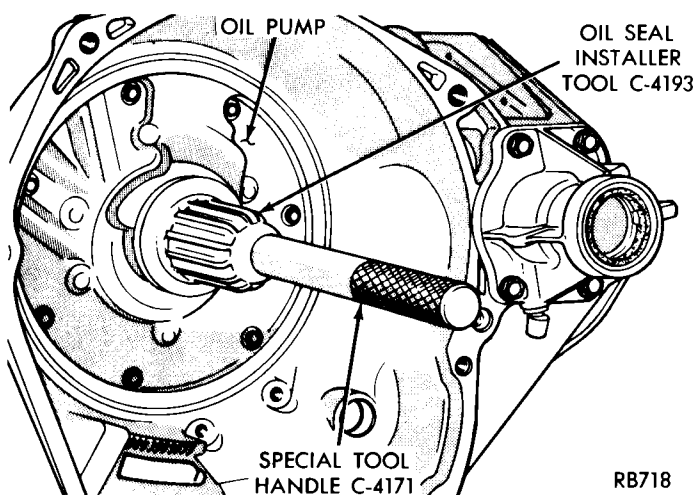

Fig. 2. Install Pump Oil Seal
(2) To install a new seal, place seal in opening of the pump housing (lip side facing inward). Using Tool C-4193, drive seal into housing until tool bottoms (Fig. 2).